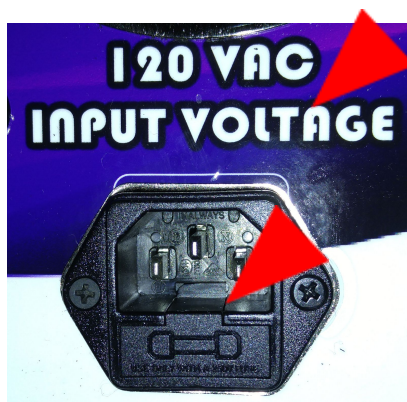

Figure 1
Make sure the POWER ON/OFF switch is in the OFF position and the device is disconnected from the wall power outlet. The device requires a **4-amp fuse** and the fuse compartment is located at the bottom of the AC receptacle. To open the fuse compartment, fill the gap (pointed by **red arrow**) with a small slotted screw driver, then pull it out. To replace the compartment, simply press it back in. **Refer to Figure 1 below.**
- a. Make sure the INPUT VOLTAGE marked on the device (see Figure 1) matches the power voltage in your area. DO NOT attempt to toggle the POWER ON/OFF switch to ON position if the INPUT VOLTAGE of the device and the voltage in your area DO
NOT match. The voltage rating is marked on the label above the AC Receptacle (see Figure 1).